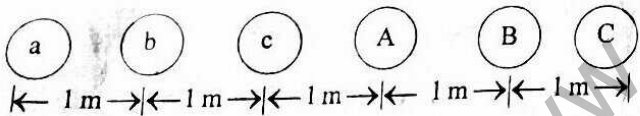

Fig 3 (b)
- (b) Calculate inductance per phase for a 3 ph double circuit line whose phase conductors have a radius of 1.5 cm with horizontal conductor spacing as shown in Fig. 3(b) 7